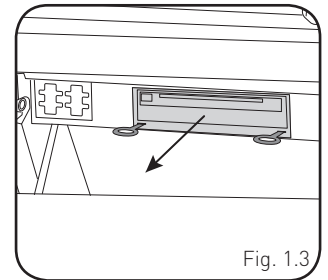

Fig. 1.3
- (8 inch radio)** Open glovebox and locate the factory CD player. Using 2 of the supplied removal tools, remove the CD player in the same fashion the radio was removed. (Fig. 1.3) Disconnect main wire harness and all antenna connections.